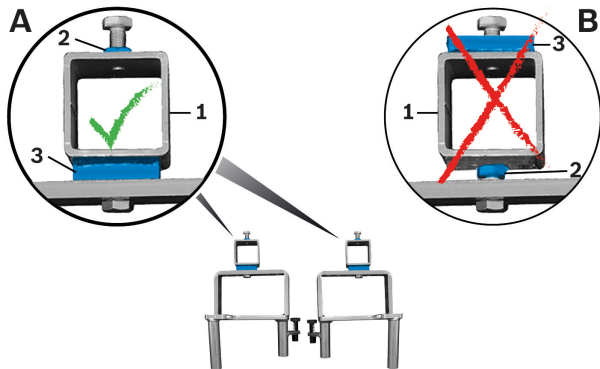

Figure 5: Support pieces on the supports T40093/1 and T40093/2
When using the supports T40093/1 and T40093/2, ensure that the support piece is installed correctly (see Figure 5).
- ▶ Should the receptacle not be in the correct position, modify it in accordance with Image **A** in Figure 5 and screw it securely.